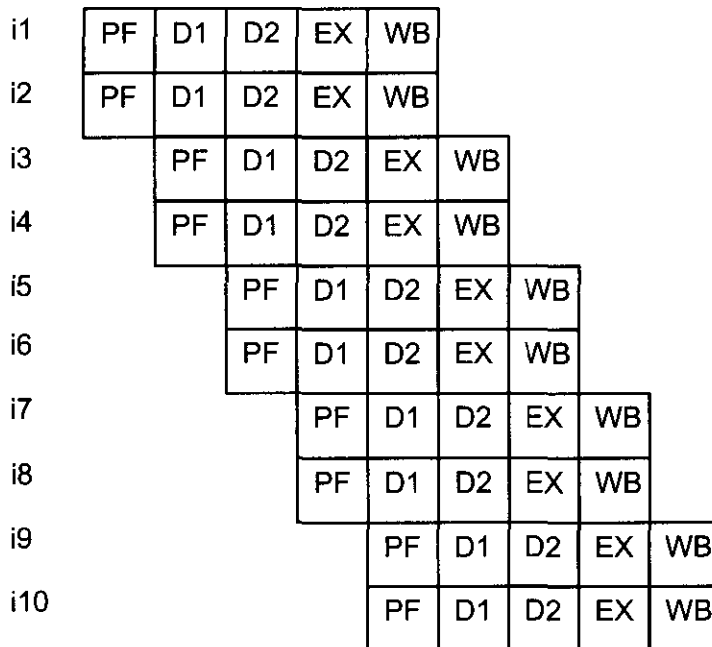

Figure 23-7. Pentium Pipeline
The on-chip math coprocessor of the Pentium is many times faster than the one on the 486. It has been redesigned to perform many of the instructions, such as add and multiply, ten times faster than the 486 math coprocessor. In microprocessor terminology, the on-chip math coprocessor is commonly referred to as a *floating point unit* (FPU) while the section responsible for the execution of integer-type data is called the *integer unit* (IU). The FPU section of the Pentium uses an 8-stage pipeline to process instructions, in contrast to the 5-stage pipeline in the integer unit. See Figure 23-7.